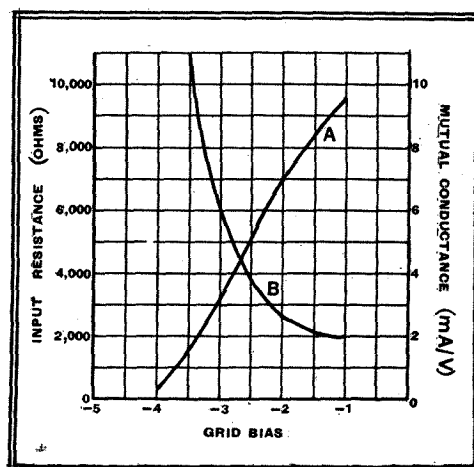

Fig. 3. Curve A gives the mutual conductance and curve B the input resistance at  $45 \text{ Mc/s}$  of the SP41.
Curves showing the variation of mutual conductance (A) and input resistance (B) at 45 Mc/s are given in Fig. 3 for the SP41 with 200 volts screen potential. In a television RF amplifier the requirements of band-width limit the dynamic resistance of the tuned circuit which can be used, and under average conditions it is of the order of 2,000 ohms. The dynamic resistance of the tuned circuit alone is usually higher than this, and the extra damping is provided by the input resistance of the valve. For other purposes we are not limited by band-width, and we usually want to make the effective dynamic resistance as high as we can. With a good circuit the stage gain will then be limited by the mutual conductance and input resistance of the valve.
It can be seen from Fig. 3 that the resistance goes up as the mutual conductance goes down. Consequently we should expect to find an optimum value of grid